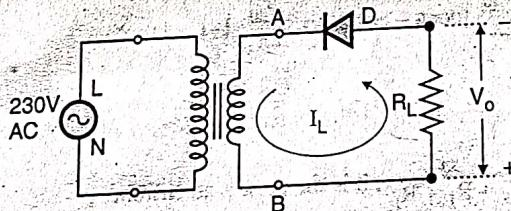

Fig. 11.3.3(b) : Half wave rectifier to produce negative output voltage
- Such a half wave rectifier is shown in Fig. 11.3.3(b). It produces a negative dc voltage across the load.